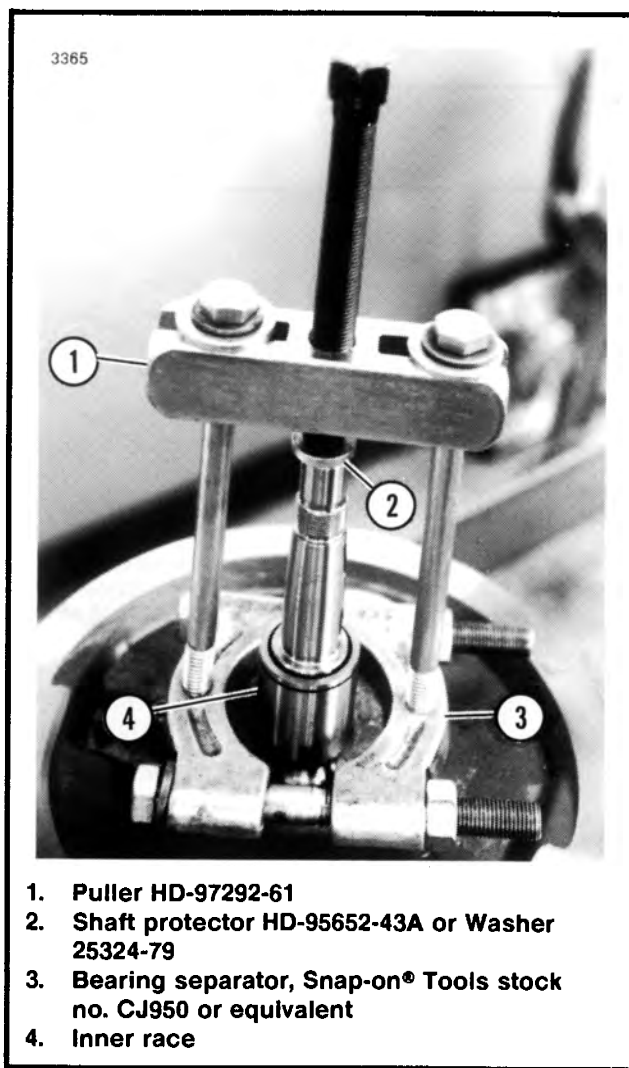

Figure 3-65. Pulling Pinion Shaft Inner Race
1. See Figure 3-65. Remove inner race (4) with tools shown. Apply heat to race to aid removal.